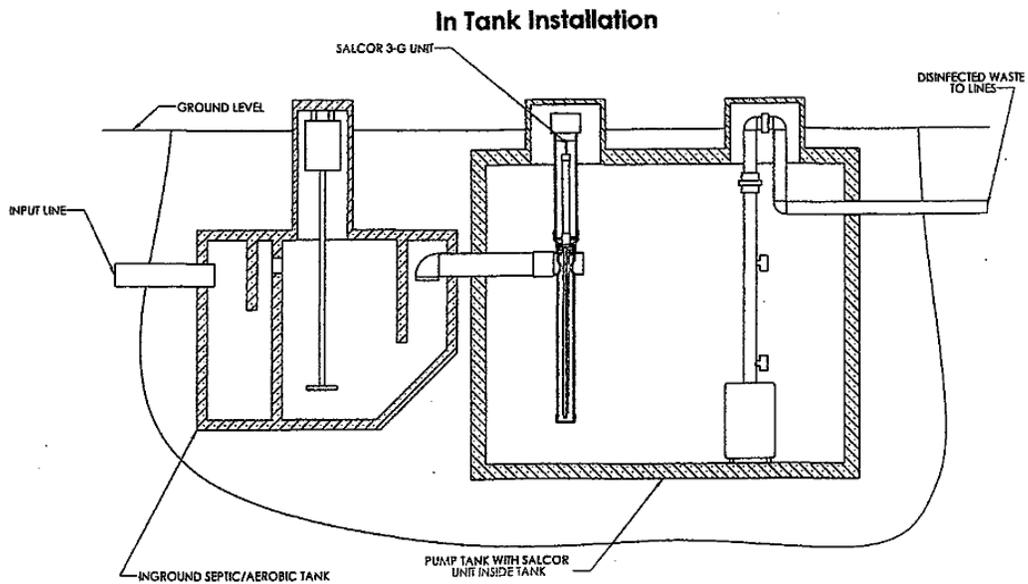

Figure 3
2. In a Pump Tank Installation: Couple the UV Unit inlet pipe to the pretreatment unit exit pipe at the entrance of the pump tank. See **Figure 3** (Page 5).